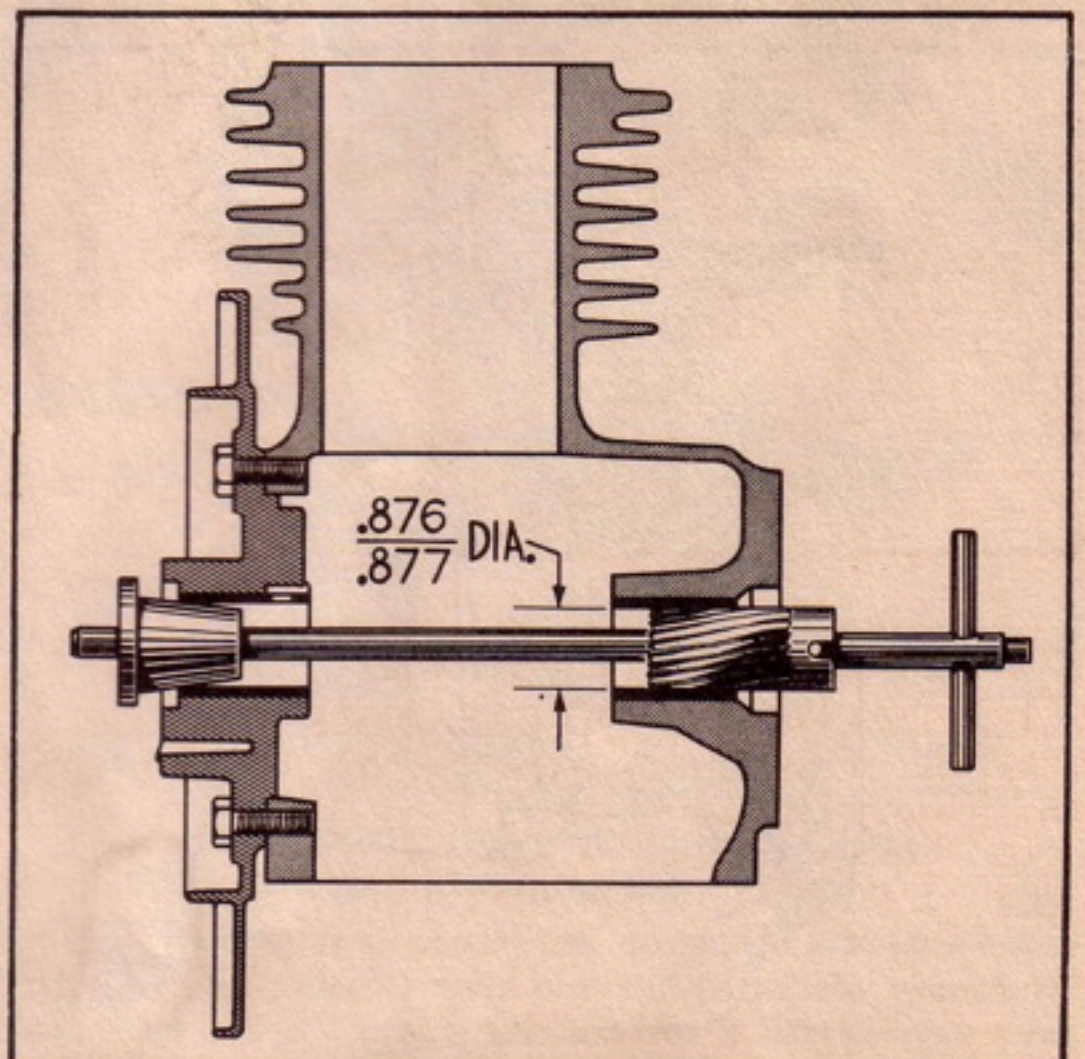

Figure C-14. Align-Reaming Main Bearings
f. Insert the main bearing reamer in the bearing bore and slide the alignment sleeve on the end of the reamer shaft in the opposite bearing from the one being removed. (See figure C-14.)